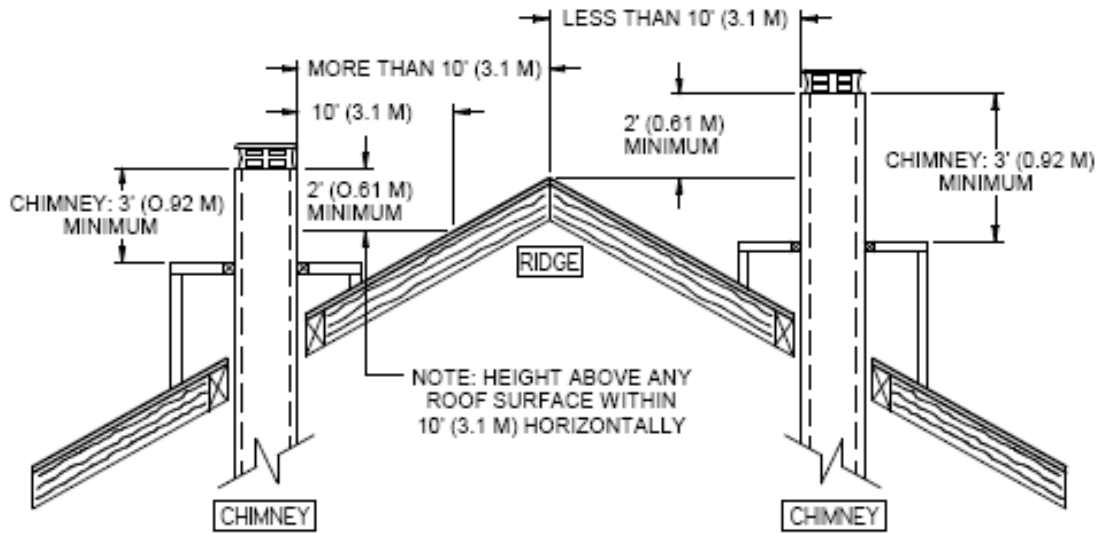

Figure 31a
12. When you build a chase enclosure for chimney sections above the roof, the chimney must extend at least 3 ft. (92 cm) above the chase enclosure and at least 2 ft. (61 cm) higher than any wall, roof or building within 10 ft. (3.1 m) of it. See **Figure 31a** and **31b** to determine the configuration that applies to your roof (flat or sloped roof and the distance between the chimney and the highest point of the roof and/or the nearest chimney).